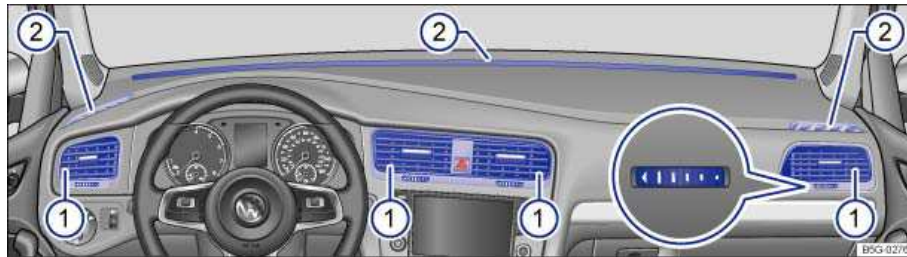

Fig. 149 In the instrument panel: Air vents.
To help ensure sufficient heating, cooling, and ventilation in the passenger compartment, never close the air vents completely ⇒ fig. 149 (1).